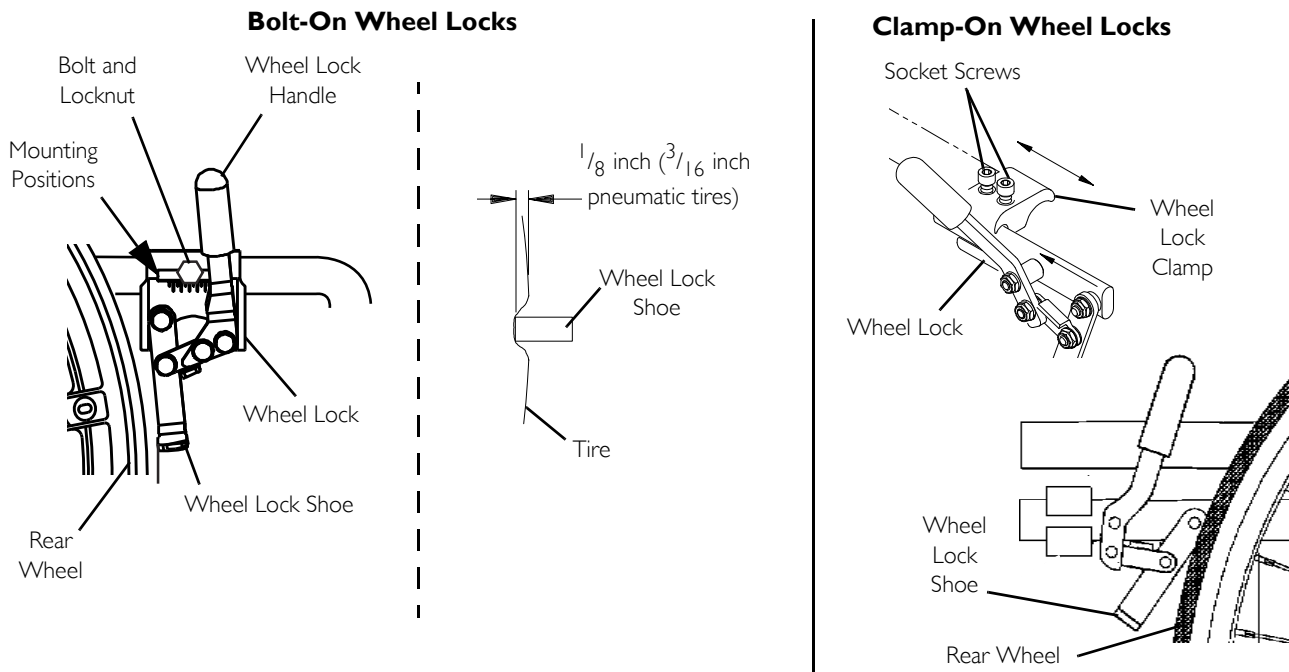

FIGURE 4 Adjusting Patient-Operated Wheel Locks
6. Measure the distance the wheel lock is embedded into the tire as shown in FIGURE 4 on page 68.